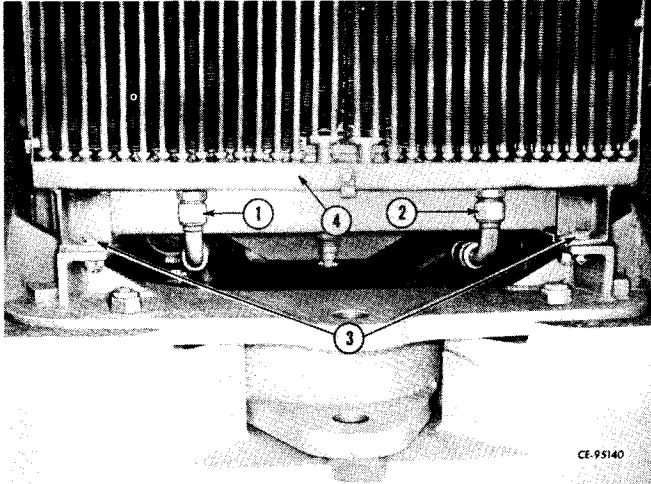

Figure 2-28
Using a suitable hoist, lift and position oil cooler (4, Fig. 2-28) onto frame. Install and tighten cap screws and nuts (3). Install and tighten the cap screws and nuts that secure the top of the oil cooler to the radiator. Install and tighten cooler lines (1, 2) to oil cooler (4).
Using a suitable hoist, lift and position oil cooler (4, Fig. 2-28) on frame. Install and tighten cap screws and nuts (3). Install and tighten cap screws and nuts securing the top of the oil cooler to the radiator (not shown). Install and tighten cooler lines (1, 2) to oil cooler (4).